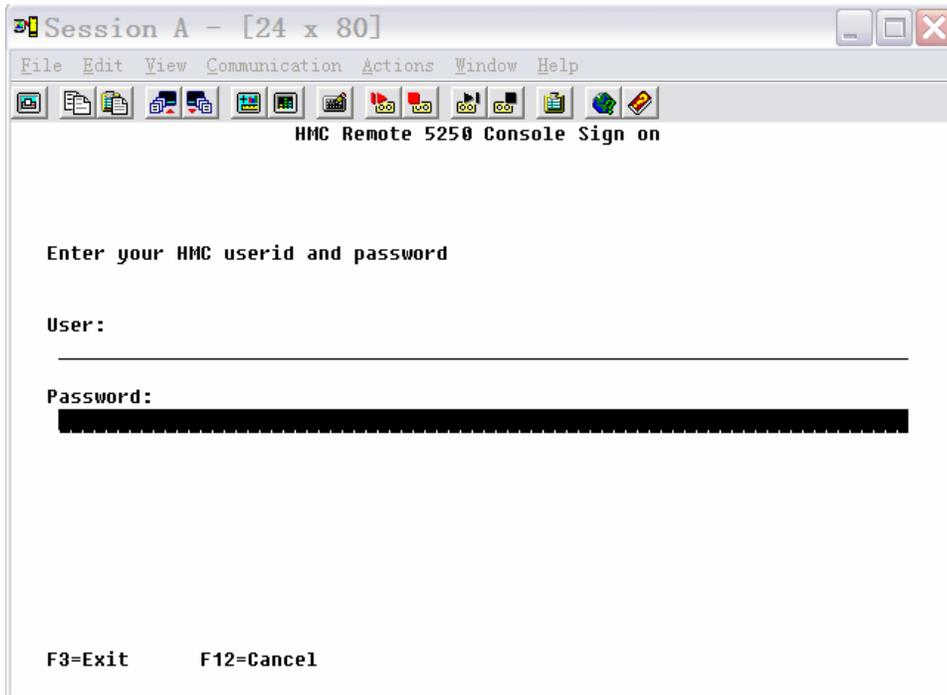

Figure 2-7 Remote 5250 console - HMC user ID and password
- When the window in Figure 2-7 prompts you, type the correct HMC user ID and password, then press Enter.